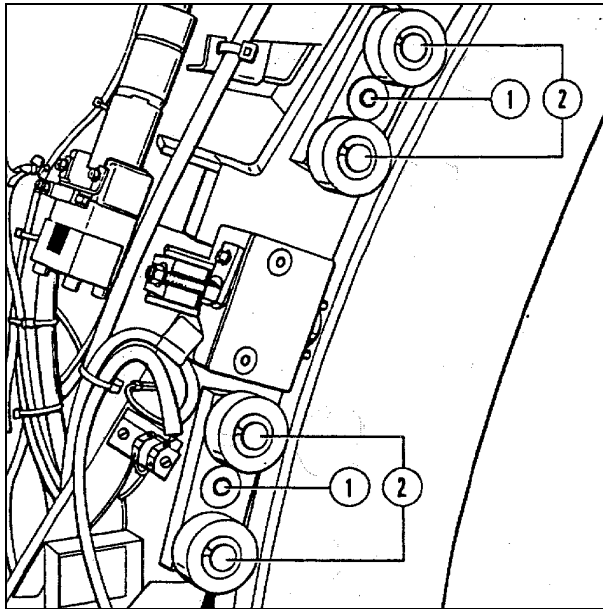

Fig. 5
- The distance between the inner and outer rollers can be adjusted. The distances of the outer roller pairs (Fig. 5/ 2) can be varied using the eccentric (Fig. 5/1).
- Loosen the 4 Allen screws of the eccentrics (Fig. 5/1) again.